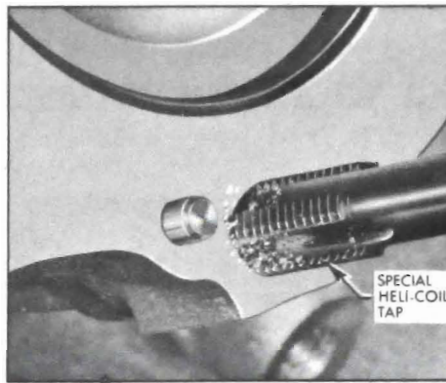

Figure 2-64—Tapping New Thread
2. Cut new threads. See Figure 2-64.